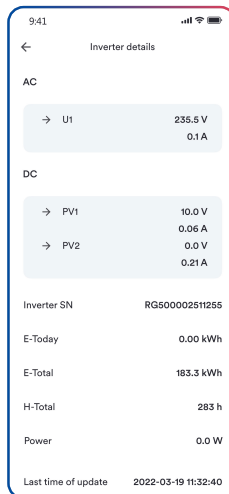

Figure 9. Inverter information
2. The page displays the inverter serial number and inverter details as shown in Figure 9.